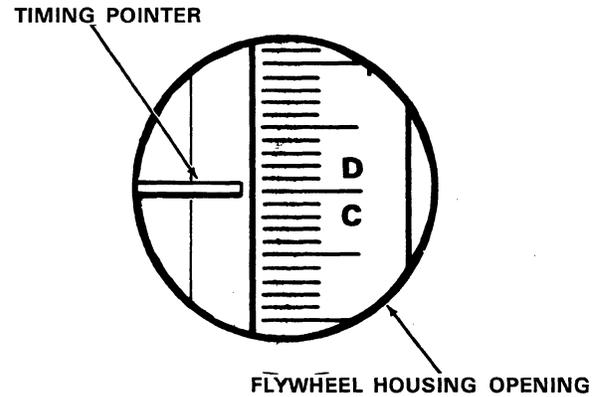

Figure 27
The Top Dead Center position of number 1 and 4 cylinders is indicated by the TDC mark on the flywheel. Refer to Figure 27
STEP 1 - Remove the valve cover. Crank the engine until the timing pointer is aligned with the TDC timing mark on the flywheel, Figure 27. Check the push rods on No. 1 cylinder for looseness. If the push rods are loose, No. 1 cylinder is at TDC on the compression stroke. If the push rods are tight, crank the engine one complete revolution and align the pointer and the TDC mark on the flywheel, Figure 27.
STEP 2 - Crank the engine one complete revolution and align the timing pointer and the TDC mark on the flywheel, Figure 27. Cyl-